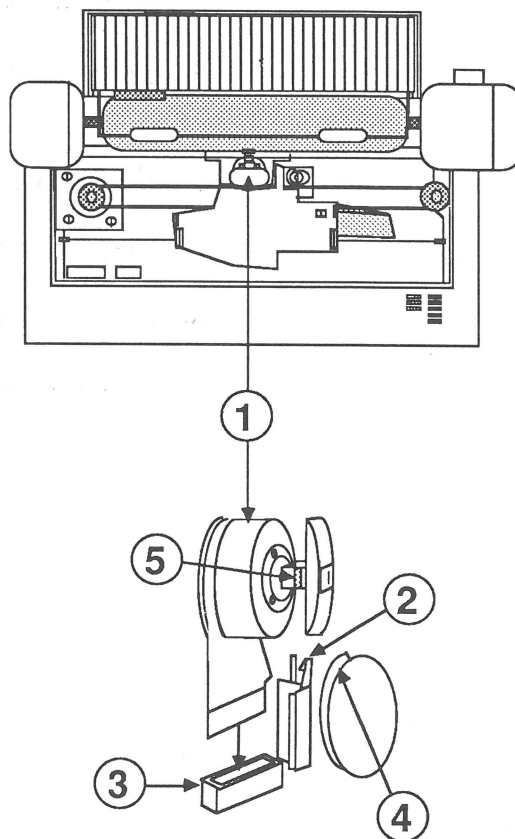

FIGURE 5
3. Locate the print head (Figure 5, #1).
4. Gently push aside the white clamp (Figure 5, #2). Grasp the print head and slowly lift it straight up and out of the connector.
1. Line up the metal connector "fingers" of the print head with the connector (Figure 5, #3).
2. Align the front oblong portion so that it goes between the clear plastic card holder covering the platen (Figure 5, #4) and the print-head clamp (Figure 5, #2). The print-head clamp goes over the indentations on the print head (Figure 5, #5).